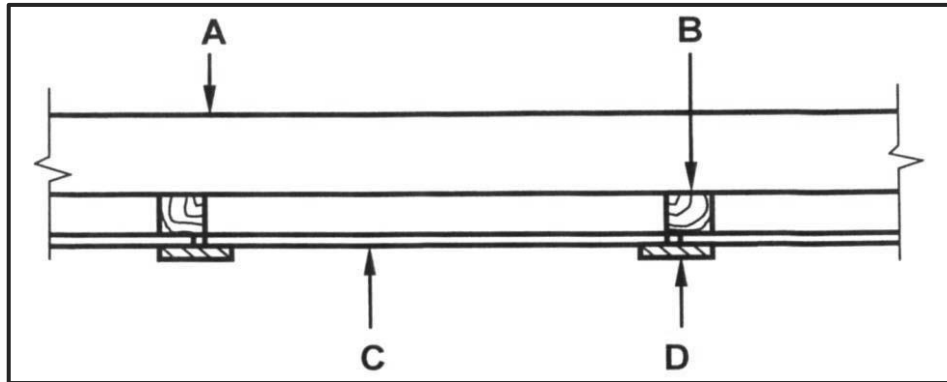

FIGURE 2.4.1
2.4 2.4.1 **FIGURE 2.4.1** below shows a sectional view of a conventional trap door. Study the sketch and give **ONE** word for each of the letters (**A–D**) by choosing a word from the list below. Write only the word next to the letter (**A–D**) e.g. E – Rafter.